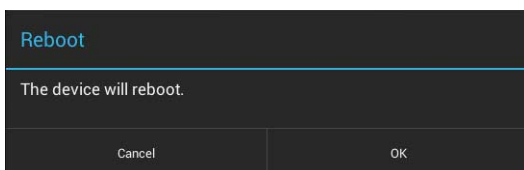

FIG. 6 Reboot window
1. In the *Maintenance* page, select **Reboot**. This opens the *Reboot* window (FIG. 6).